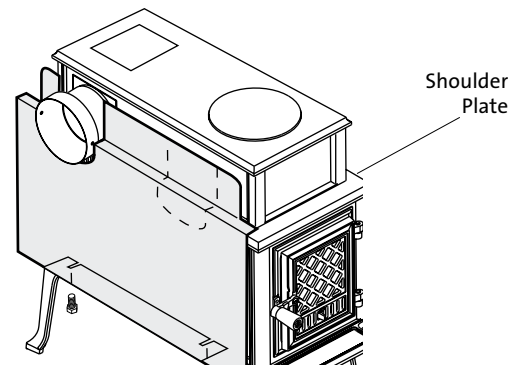

Figure 3.
1. Use a 10 mm wrench to loosen the two mounting bolts located under the lip of the stove bottom. See **fig. 3**.